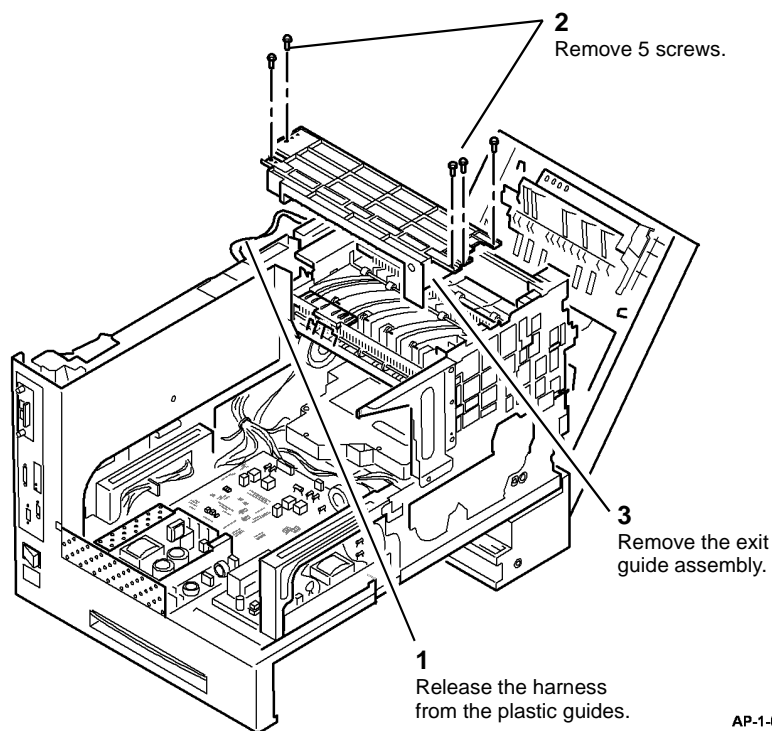

Figure 1 Exit guide assembly removal
4. Remove the exit guide assembly, Figure 1.